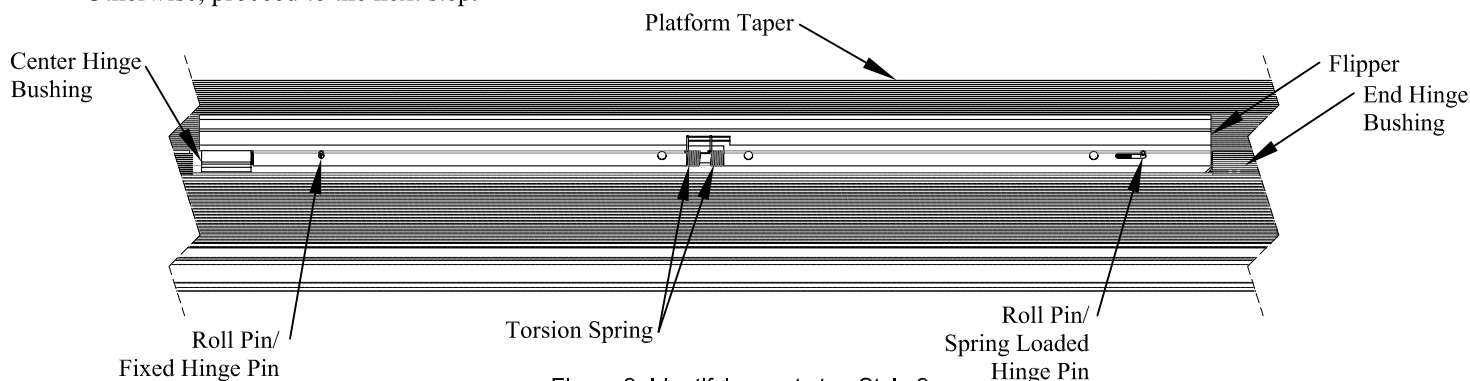

Figure 2: Identifying cart stop Style 2.
If each flipper has two (2) hinge pins secured by roll pins (Figure 2), skip to step 9.